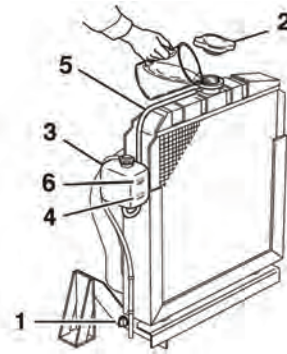
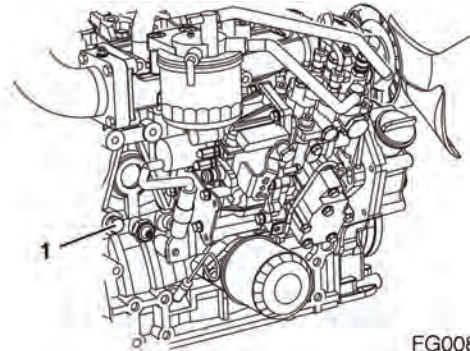
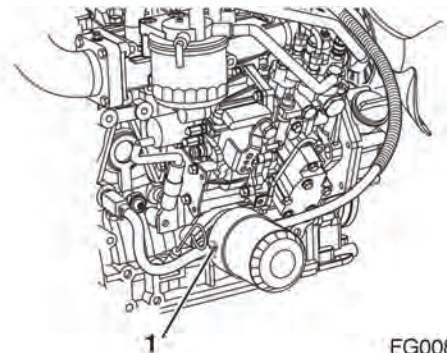

Figure 42
Figure 43
Figure 44
Fill the radiator and reserve tank as follows. This procedure is for filling the radiator for the first time or refilling it after it is flushed. Note that a typical radiator is illustrated (Figure 42).
1. Check to be sure the radiator drain plug is installed and tightened or the drain cock (1, Figure 42) is closed. Also make sure the coolant drain plug (1, Figure 43) in the cylinder block is closed or the oil coolant hoses (1, Figure 44) are installed at the oil cooler.
2. Remove the radiator cap (2, Figure 42) by turning it counter-clockwise about 1/3 of a turn.
4. Reinstall the radiator cap (2, Figure 42). Align the tabs on the back side of the radiator cap with the notches on the engine coolant filler port. Press down and turn the cap clockwise about 1/3 of a turn.
5. Remove the cap on the reserve tank (3, Figure 42), and fill it to the LOW (COLD) mark (4, Figure 42) with engine coolant. Reinstall the cap.
6. Check the hose (5, Figure 42) that connects the reserve tank (3, Figure 42) to the radiator. Be sure it is securely connected and there are no cracks or damage. If the hose is damaged, the engine coolant will leak out instead of going into the reserve tank.
7. Run the engine until it is at operating temperature. Check the level of engine coolant in the reserve tank. When the engine is running and the engine coolant is at normal temperature, the coolant level in the tank should be at the FULL (HOT) mark (6, Figure 42). If the engine coolant is not at the FULL (HOT) mark (6, Figure 42), add additional engine coolant to the reserve tank to bring the level to the FULL (HOT) mark.